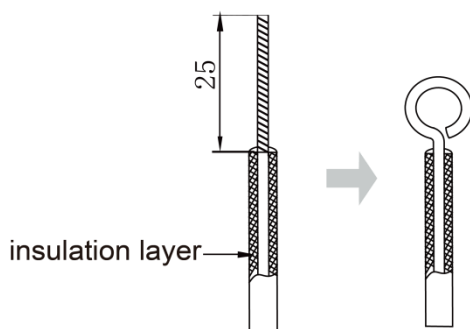
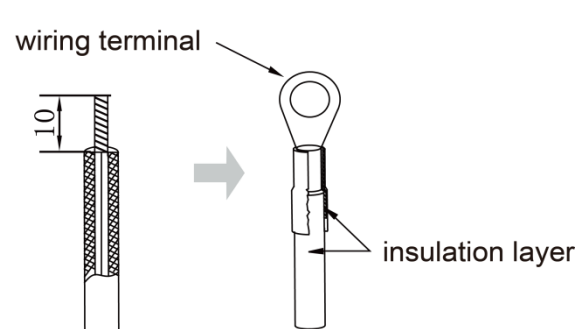

Fig 5.1.1
Fig 5.1.2
(1) The connection of wire (as shown in fig 5.1.1)
- ① Strip about 25mm insulation of the wire end by stripping and cutting tool.
- ② Remove the wiring screws on the terminal board.
- ③ Shape the tail of wire into ring by needle nose plier, and keep the gauge of ring in accordance with screw.
- ④ Use the screwdriver for tightening the terminal.
(2) The connection of stranded wire (as shown in fig 5.1.2)
- ① Strip about 10mm insulation of the end of stranded wire by stripping and cutting tool.
- ②